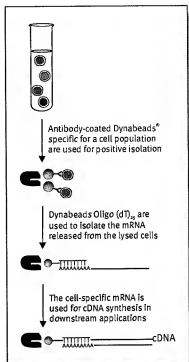

Fig. 7: Positive isolation of a specific cell type, followed by mRNA isolation and further downstream magnetic manipulations.
Pure cell populations are becoming increasingly used for molecular analyses. Data from homogeneous cell samples are more informative than that from larger samples of mixed cells. Availability of pure cell populations is a challenge in genomic, transcriptomic (fig. 7) and proteomic profiling. Also, due to regulatory mechanisms at the transcriptional, translational and post-translational levels, mRNA and protein levels do not always correlate. Concurrent analysis of both mRNA and proteins from the same sample is required. Throughout this catalogue, Dynabeads®-based technology allows the combined isolation of pure cells, nucleic acids and proteins from single samples (patent pending). This enables downstream molecular characterisation down to single-cell profiling.
- Enzymatic reactions are not inhibited by Dynabeads®. This allows for a wide range of molecular assays and applications to be performed directly on the solid-phase (fig. 7).